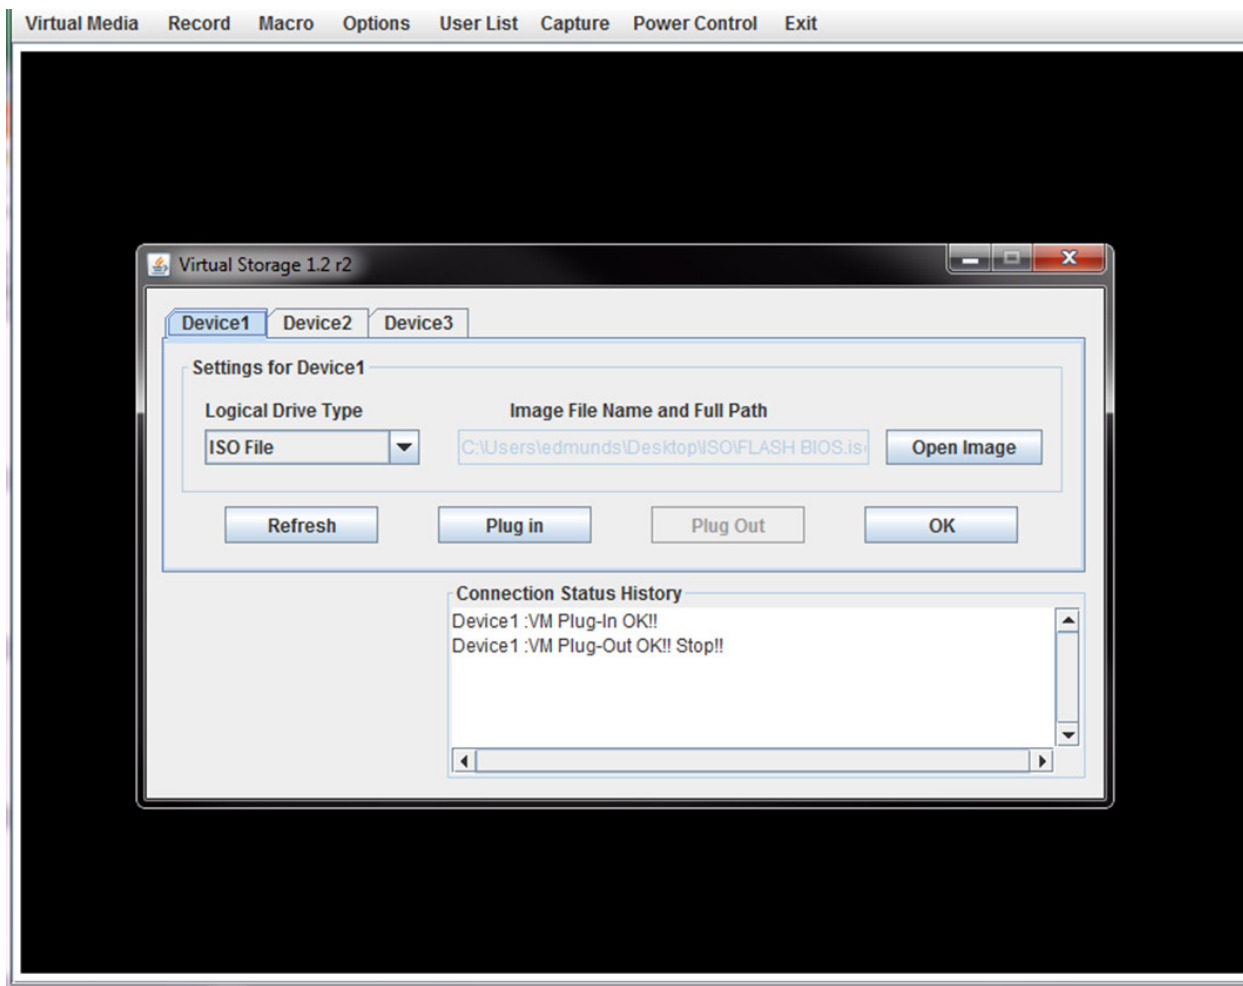

Figure A-12. Clicking Plug Out in the Virtual Storage Window
9. Close the KVM Console window, or go to the Virtual Storage window (see step 2) and click on Plug Out, this will remove mounting of the ISO file (Figure A-12).